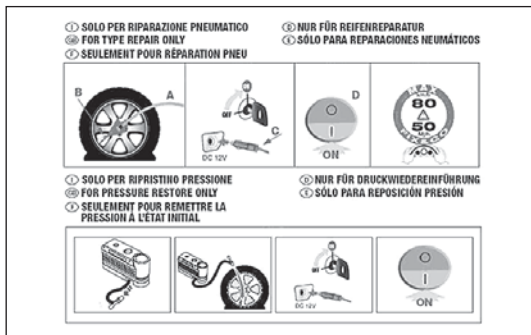

fig. 128
- informative leaflet (see fig. 128), used to ensure the correct use of the quick tyre repair kit and then given to the personnel who will handle the treated tyre;